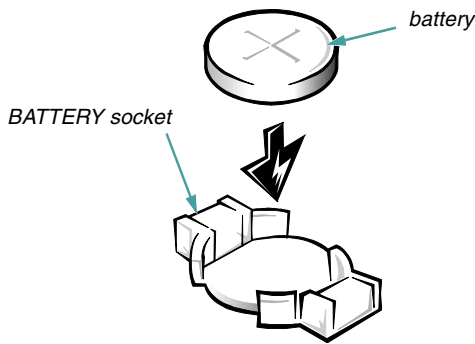

Figure 8-11. Battery Removal
4. Install the new battery with the “+” side facing up (see Figure 8-11).